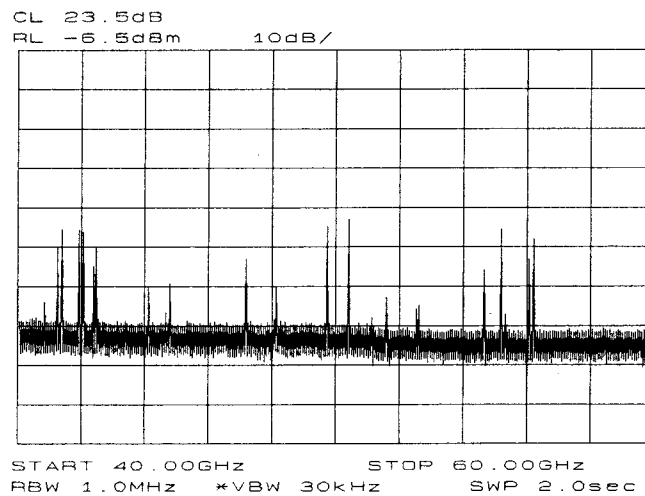

Figure 3-33. Signal Responses Produced by a 50 GHz Signal in U Band
3. The IF output of a harmonic mixer contains many mixer products (frequencies of $LO \pm \text{source}$, $2LO \pm \text{source}$, $3LO \pm \text{source} \dots nLO \pm \text{source}$). As a result, within a single harmonic band, a single input signal can produce many responses, only one of which is valid. These responses come in pairs, where the members of the valid pair are spaced 621.4 MHz apart (see Figure 3-33) and the right-most member for the pair is the correct response (for this analyzer, the left member of a pair is not valid).